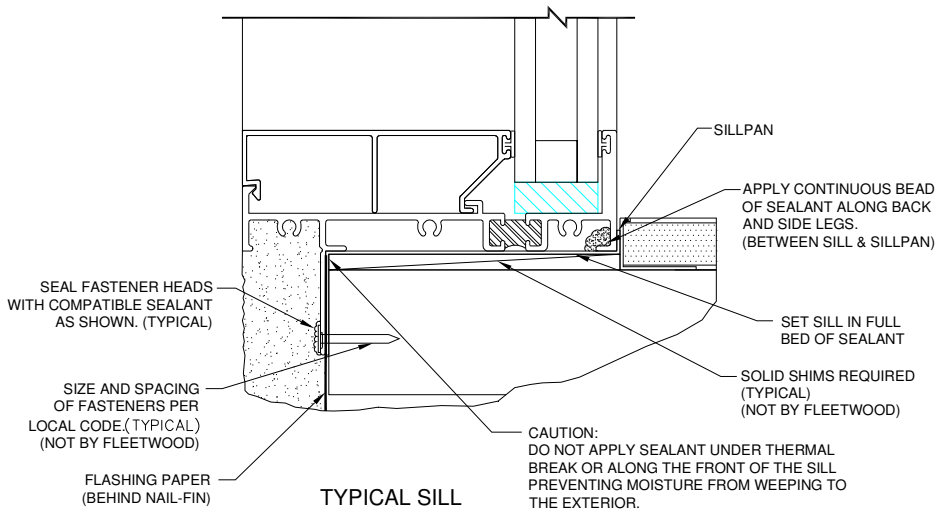

Figure 10:
4. After the frame is assembled, seal inside of all four corners, joints and above the thermal break (Figure 10) with a thin attractive bead of self leveling compatible sealant
4. Insert the frame into the opening and set the sill in a full bed of sealant (Figure 10). Cross-measure and adjust as necessary to achieve a plumb square and level condition, as well as an even reveal around the framed opening. Shim with non-porous, non-absorbent, inorganic shims where needed. Seal all fastener heads with compatible sealant. (Only drill holes through Sill as required for design load)